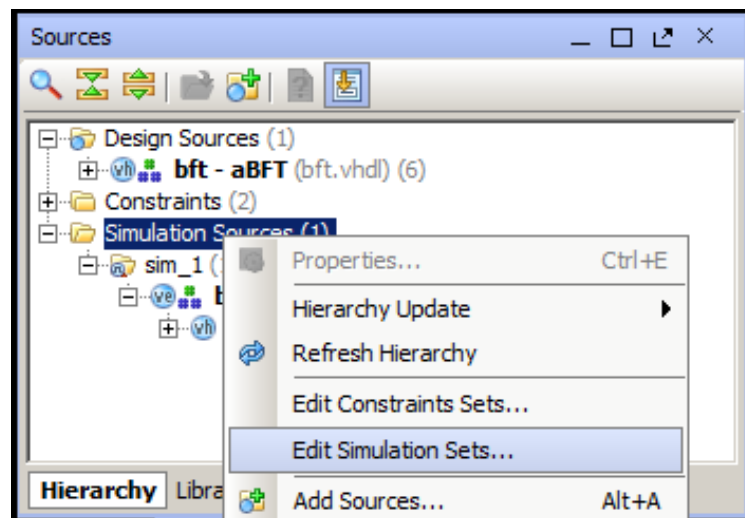

Figure 8-9: Edit Simulation Sets Option
1. In the Sources window popup menu, select **Simulation Sources > Edit Simulation Sets**, as shown in Figure 8-9.